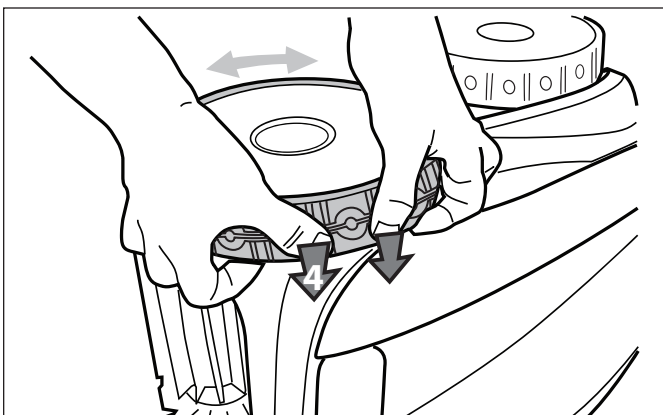

Figure 41. Push the Tire into Place on the Wheel
6. Push and position the rib of the inner side of the tire in the groove of the wheel. Refer to Figure 41. If needed, turn the wheel gently to help with installation.